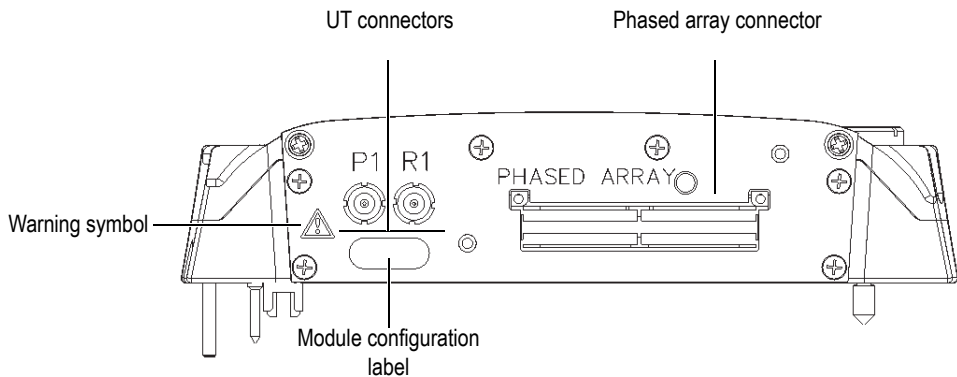

Figure N-1 Module side view
- To reduce the risk of electric shock, avoid touching the inner conductor of the LEMO connectors. Up to 340 V can be present on the inner conductor of the UT connectors, and up to 115 V can be present on the PA connector. The warning symbol near the LEMO connectors signals this electric shock risk (see Figure N-1 on page 187).